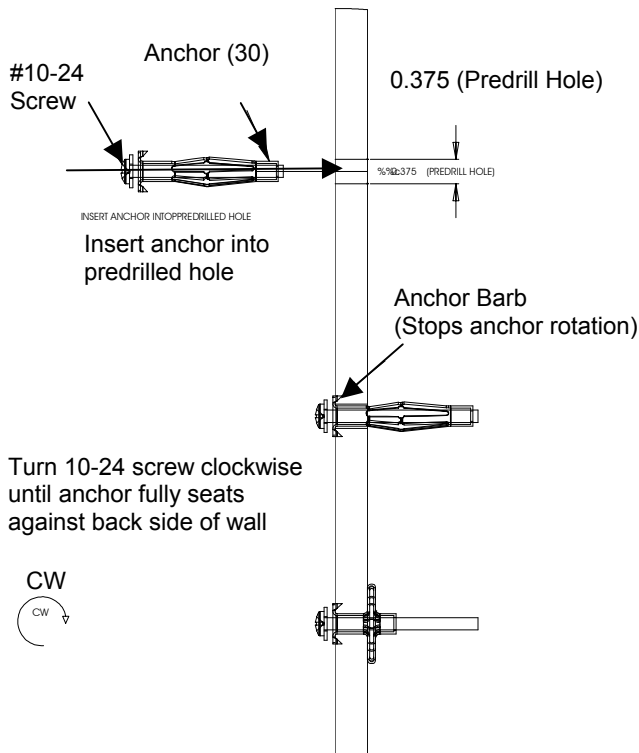

Figure 1. Anchor Installation
- E. Install an anchor (30) in one of the pilot holes and tighten anchor bolt until it is fully seated (see Figure 1).
- F. Remove and retain bolt from anchor (30) and repeat Step 1.E and 1.F for three remaining anchors (30).
- G. Using four bolts, with washers installed, secure wall bracket (20) to wall.